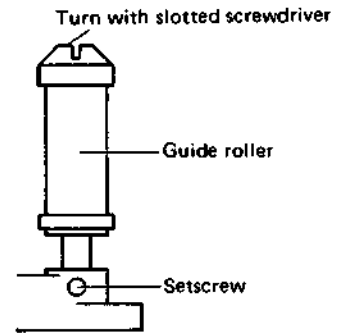

Fig. 4-31 Guide roller height adjustment
1. Slightly loosen setscrews of the supply and take-up guide rollers as shown in Fig. 4-31.